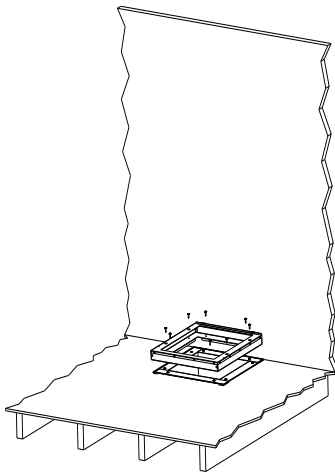

Fig. 23 – Mounting Transition Base to the Floor
1. For downflow installations, secure the transition base to the floor using 5/16 in. (8 mm) lag screws or equivalent x 3/4 in (min) (two each side) (see Fig. 23).